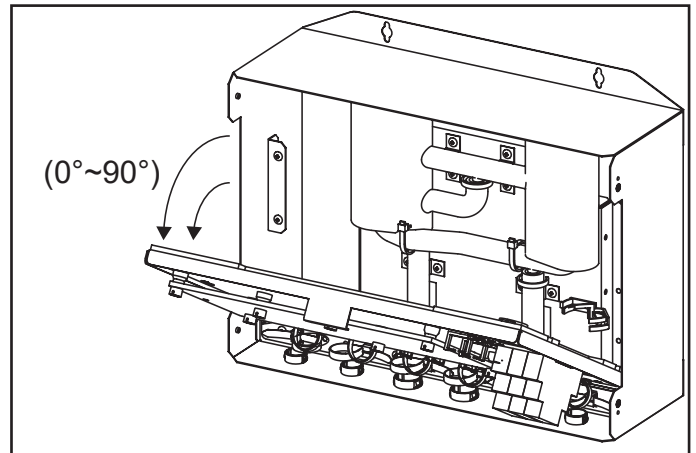

Figure 12. Flip Electrical Control Board Assembly Forward
2. Remove the two (2) screws securing the electrical control board assembly. See Figure 12.